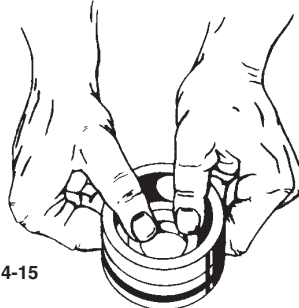

Figure 4-15
23. Carefully press seal seats (#12.5) into both seal cups (#2). (refer to figure 4-15) A clean soft material should be used between the seal face and pressing tools. The smoothest side of the seat should face up. Caution: Dirt and scratches can quickly ruin seals. Place an "O" ring (#6) into the groove around each seal cup.